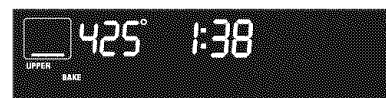

Figure 4
2. Press   . "425°" will appear in the display (Figure 4).